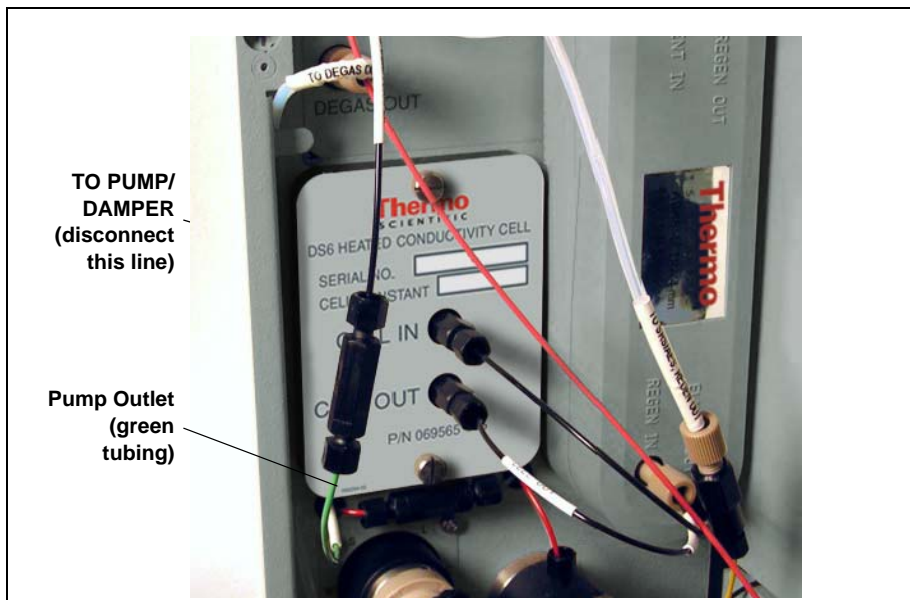

Figure 75. Dionex EluGen Cartridge Inlet and Pump Outlet
2. Disconnect the Dionex EluGen cartridge inlet line (labeled **TO PUMP/DAMPER**) from the coupler that connects it to the green pump outlet line (see Figure 75).